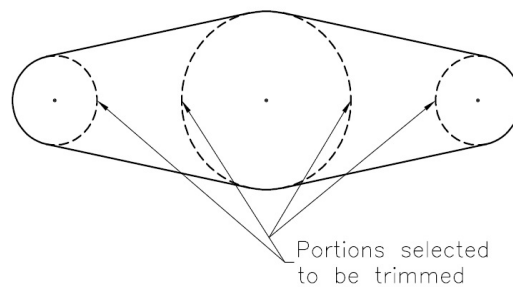

Figure 4-91 *Selecting the portions to be trimmed*
7. Specify a point on the right half of the left circle; the right half of this circle is trimmed. Similarly, select portions of the other circles to trim, as shown in Figure 4-91.